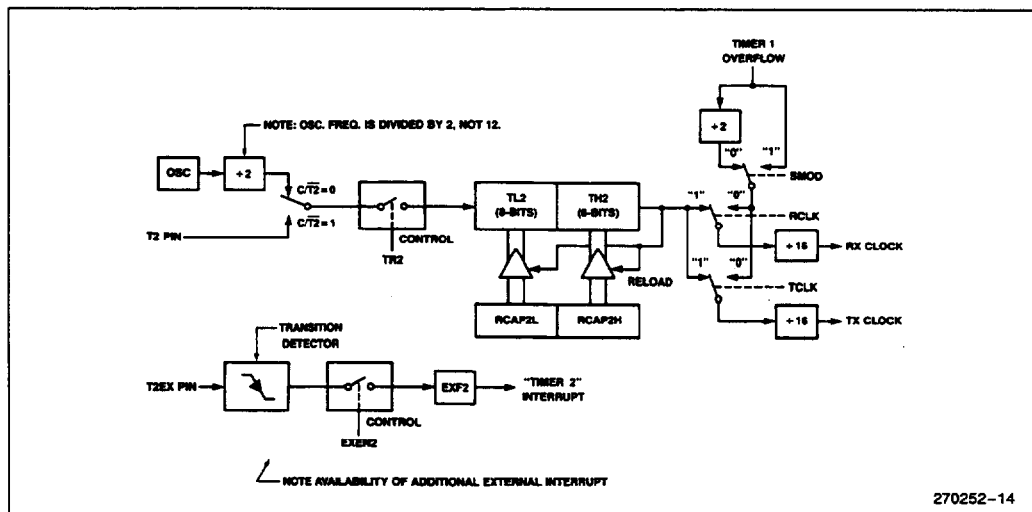

Figure 16. Timer 2 in Baud Rate Generator Mode
11). Note then the baud rates for transmit and receive can be simultaneously different. Setting RCLK and/or TCLK puts Timer 2 into its baud rate generator mode, as shown in Figure 16.
Timer 2 as a baud rate generator is shown in Figure 16. This Figure is valid only if  $\text{RCLK} + \text{TCLK} = 1$  in T2CON. Note that a rollover in TH2 does not set TF2, and will not generate an interrupt. Therefore, the Timer 2 interrupt does not have to be disabled when Timer 2 is in the baud rate generator mode. Note too, that if EXEN2 is set, a 1-to-0 transition in T2EX will set EXF2 but will not cause a reload from (RCAP2H, RCAP2L) to (TH2, TL2). Thus when Timer 2 is in use as a baud rate generator, T2EX can be used as an extra external interrupt, if desired.